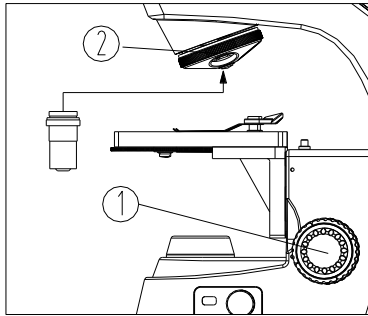

Fig. 3
1. Rotate the coarse focusing knob ① to lower the stage to a suitable position (see Fig.3).
2. Install the objectives into the nosepiece ② from the lowest magnification to the highest in clockwise direction.